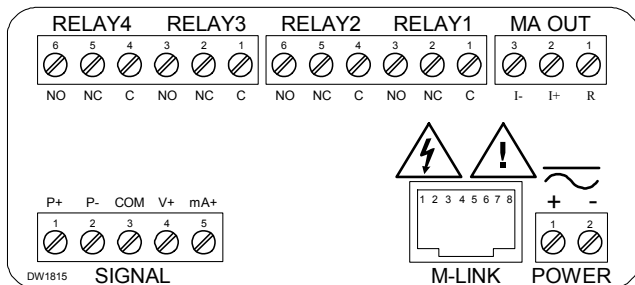

Figure 6: Connector Labeling for Fully Loaded YPP6210
Power connections are made to a two-terminal connector labeled POWER on Figure 6. The controller will operate regardless of DC polarity connection. The + and - symbols are only a suggested wiring convention.
Signal connections are made to a five-terminal connector labeled SIGNAL on Figure 6. The COM (common) terminal is the return for the 4-20 mA and the ± 10 V input signals.
Signal connections are made to a five-terminal connector labeled SIGNAL on Figure 6. The COM (common) terminal is the return for the input signals.
Serial communications connection is made to an RJ45 connector labeled M-LINK on Figure 6. Use the YPPA1232 for RS-232 interfacing, the YPPA1485 for RS-485 interfacing, or the YPPA8008 for USB interfacing. The same port is used for interfacing with all expansion modules (e.g. external relays, digital I/O).
Relay connections are made to two six-terminal connectors labeled RELAY1 – RELAY4 on Figure 6. Each relay's C terminal is common only to the normally open (NO) and normally closed (NC) contacts of the corresponding relay. The relays' C terminals should not be confused with the COM (common) terminal of the INPUT SIGNAL connector.